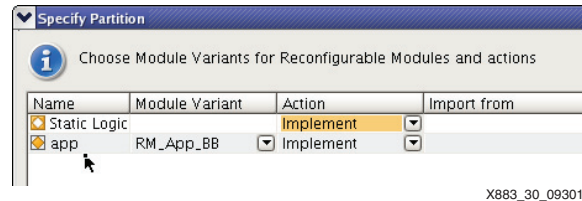

Figure 30: Specify Partition Frame
3. Name the new run `config_2`. Click the ellipsis (...) under Partition Action. Specify the partition to be `RM_App_BB`, as shown in Figure 30, then click **OK**.